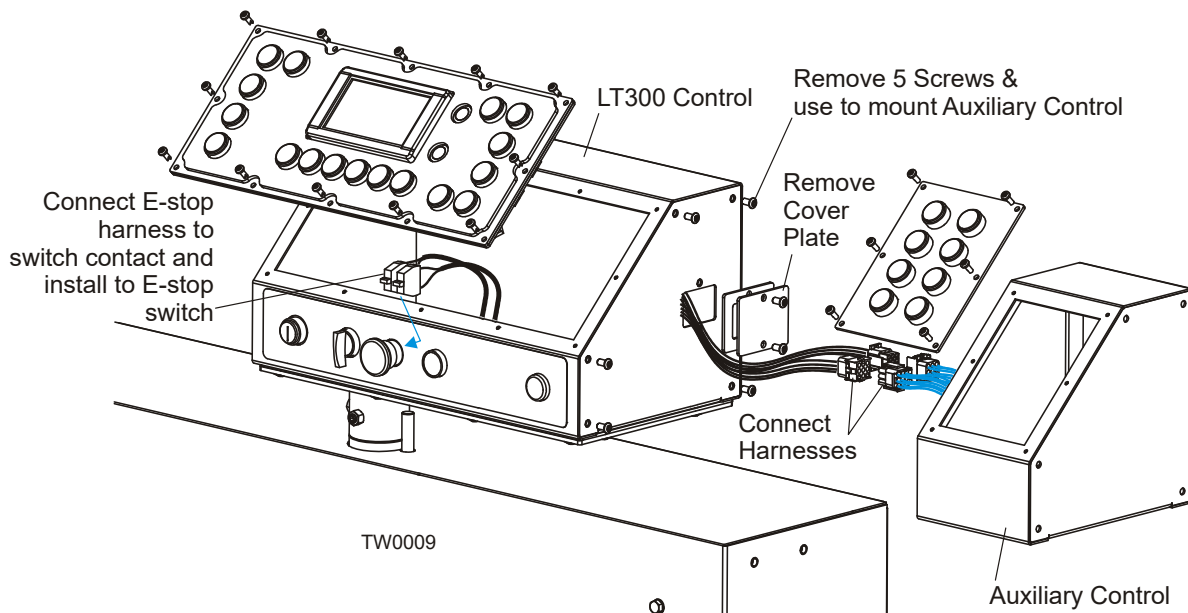

FIG. 2-40
**See Figure 2-40.** Mount the provided auxiliary control box to the side of the LT300 control box. Remove the five screws from the side of the LT300 control. Remove the access hole cover plate and gasket from the side of the box.